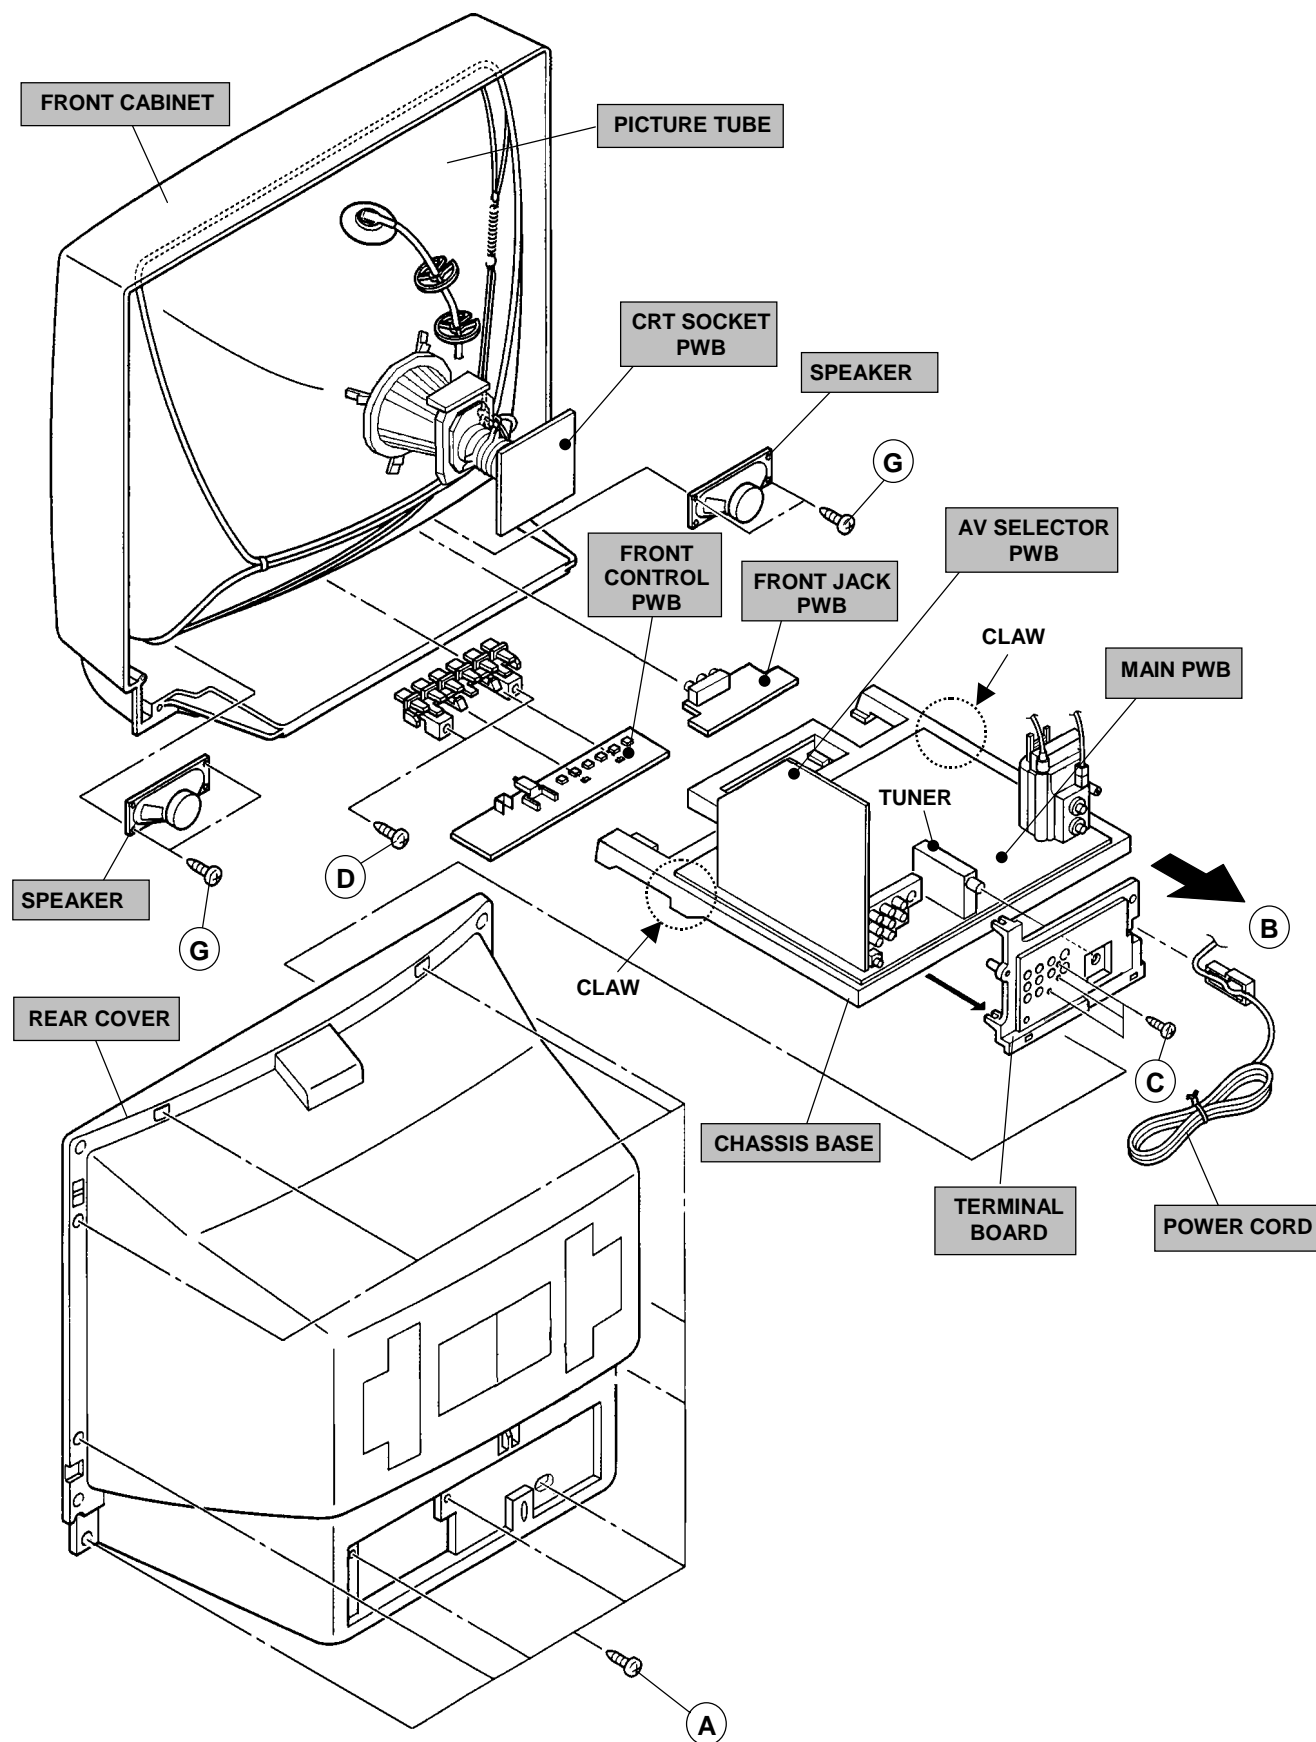

Fig.2
- 1. Remove the 11 screws marked (A) as shown in Fig.2.
- 2. Draw the chassis backward along the rail in the arrow direction marked (B) as shown in the Fig.2.
- 1. Remove the 3 screws marked (C) as shown in Fig.2.
- 1. Remove the 2 screws marked (D) as shown in Fig.2.
- 1. Remove the 2 screws marked (G) as shown in Fig.2.